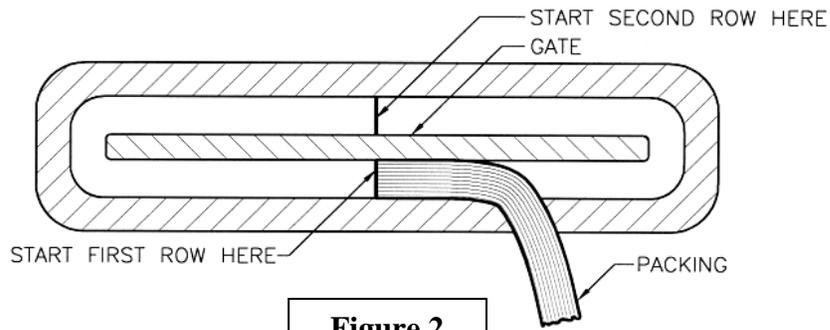

Figure 2
3. Insert one end of the bottom row of packing into the stuffing box as shown in Figure 2. **IMPORTANT:** do not push packing to the bottom of the stuffing box until the entire row has been inserted.
8. Install the remaining rows of packing, following steps 3-7. Alternate the joints in each row as shown in Figure 2 to eliminate a potential leak path.